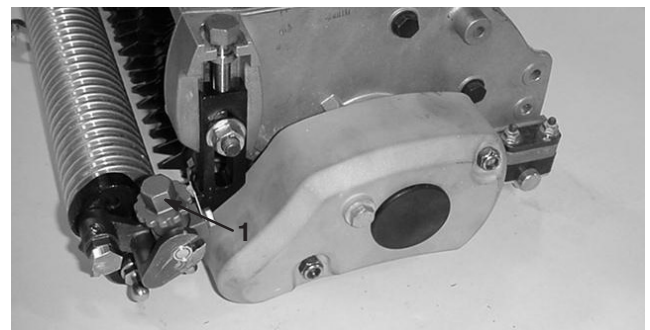

Figure 25
3. On one end of groomer shaft, measure the distance from the lowest tip of a groomer blade to work surface. Turn the groomer height adjusting knob (Fig. 25) to raise or lower blade tip to the desired grooming height. Each notch on the adjusting knob is approximately equal to .003 inch of groomer depth.